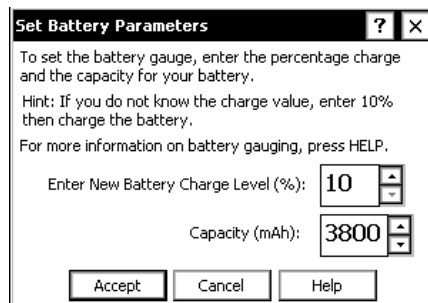

Figure 1-4. Set Battery Parameters
- 4 Plug the battery charger into a wall outlet, then the Allegro (Figure 1-3). The *Set Battery Parameters* window (Figure 1-4) automatically displays after applying power.
- 5 Complete the following settings in the *Set Battery Parameters* window (Figure 1-4):